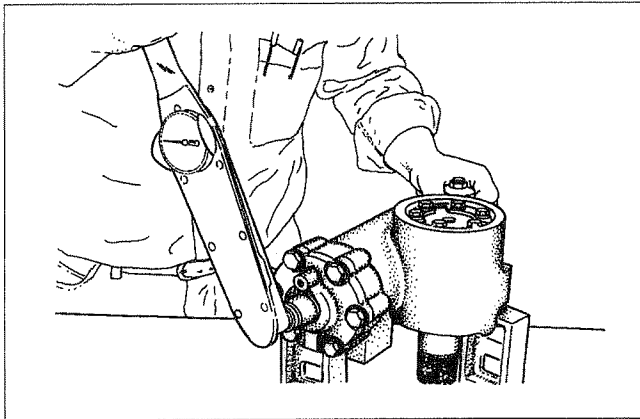

Figure 44
5. Tighten the locknut to 3.4Nm (Figure 44).